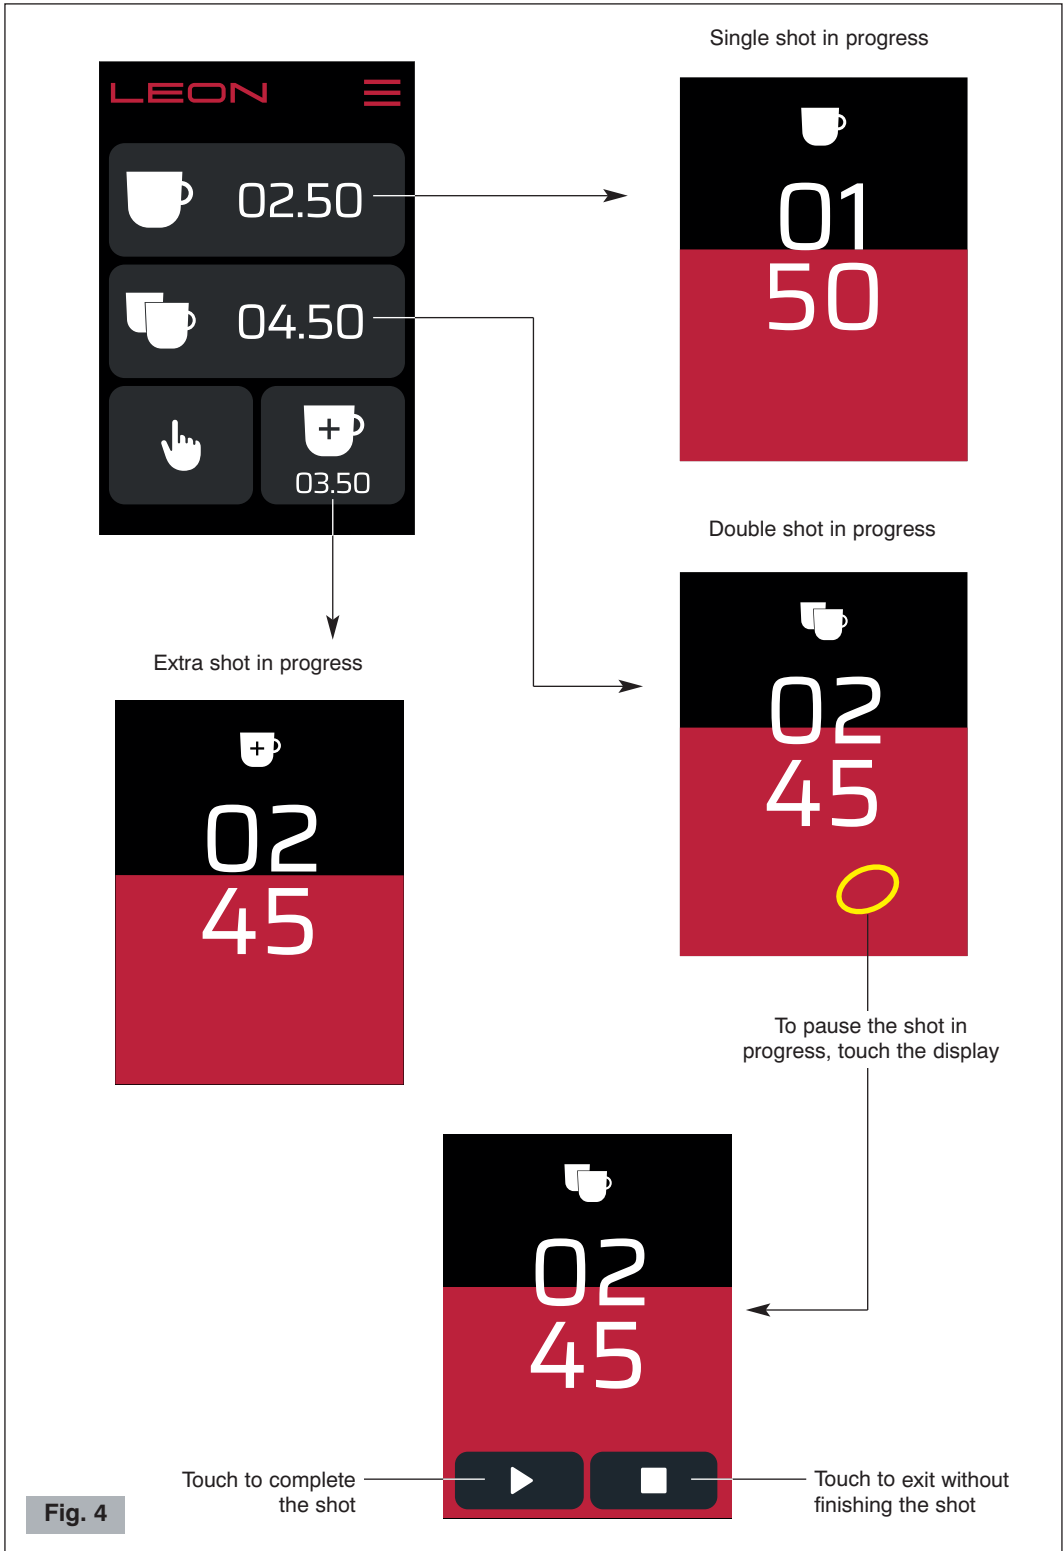

Fig. 4
- 2 Turn the ON-OFF switch to position "I" (8 Fig. 1). The control panel display (9 Fig. 1) lights up (see Fig. 4).
#### Automatic operation (see Fig. 4)